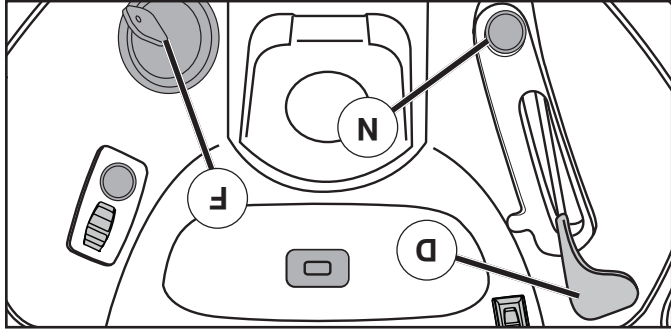

Fig. 6
(D) (Vea Fig. 6)
(N) (Vea Fig. 6)